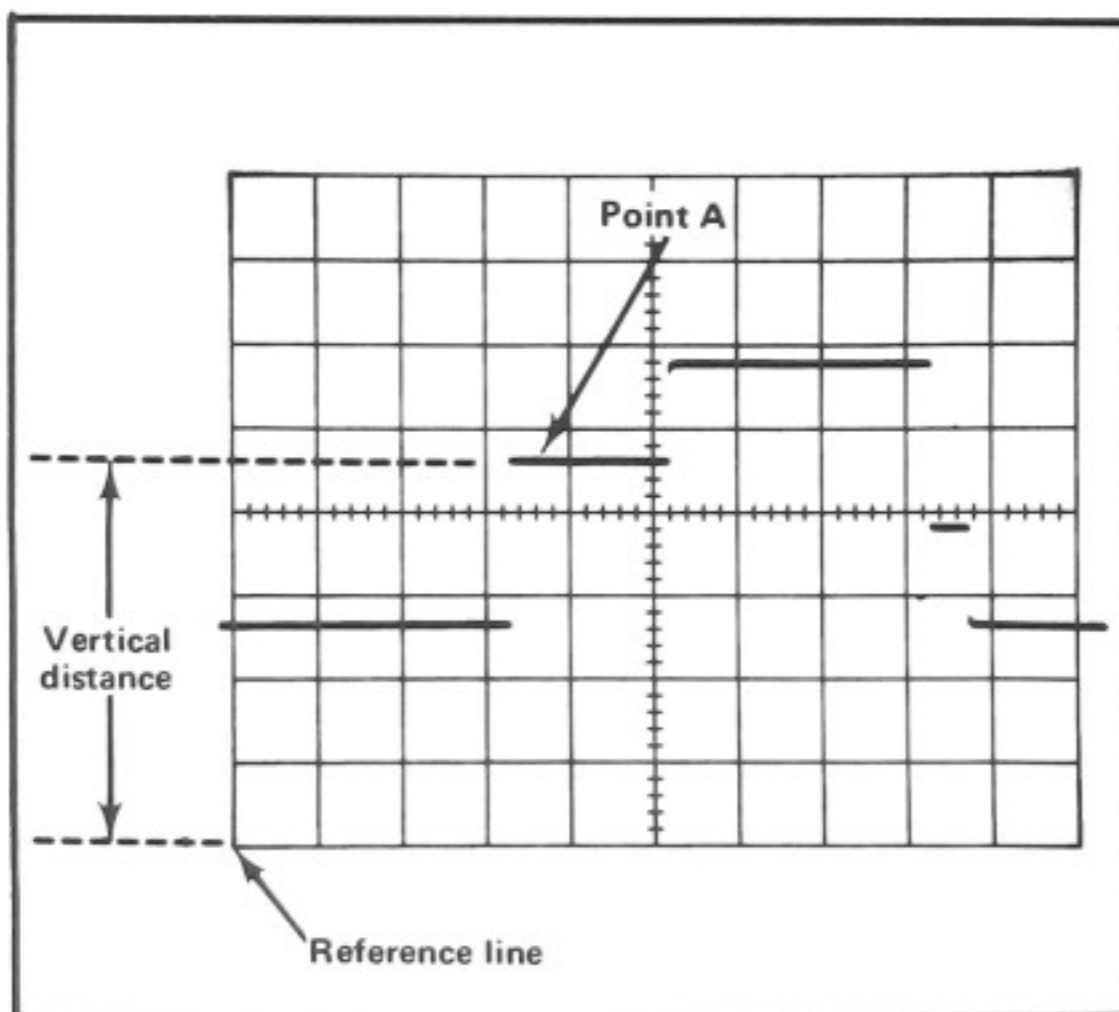

Fig. 2-8. Measuring instantaneous DC voltage with respect to A reference voltage.
9. Measure the distance in divisions between the reference line and the point on the waveform at which the DC level is to be measured. For example, in Fig. 2-8 the measurement is made between the reference line and point A.
EXAMPLE. Assume that the vertical distance measured is 4.6 divisions (see Fig. 2-8) and the waveform is above the reference line with a VOLTS/DIV switch setting of 2 V.